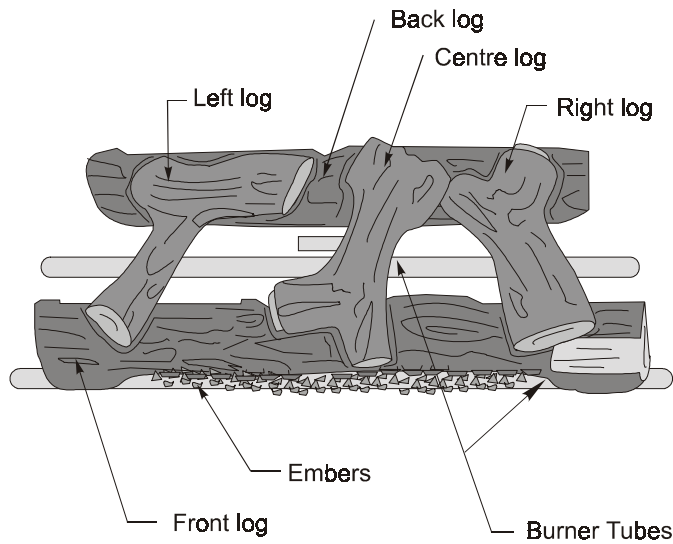

Figure 24b. Proper log placement .
4. Place the top logs in position as shown in figure 24b.